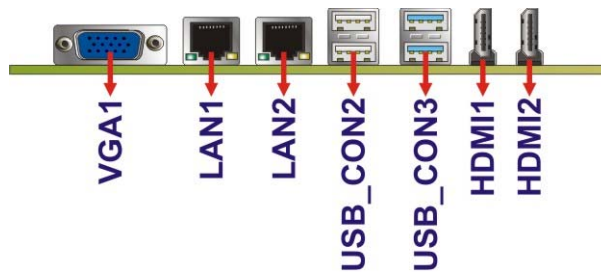

Figure 3-20: NANO-HM651 External Peripheral Interface Connector
Figure 3-20 shows the NANO-HM651 external peripheral interface connector (EPIC) panel. The NANO-HM651 EPIC panel consists of the following:
CN Location: See **Figure 3-20**
- CN Location:** See **Figure 3-20**